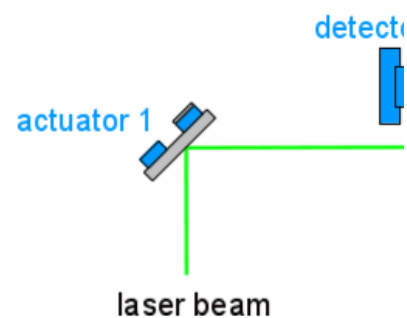

Figure 10: Set-up as in 9, with an additional detector 1 and an additional lens (lasers with larger beam diameters)
- Figure 10 shows a similar set-up where additional lenses are placed in front of the detectors. Further, a beam splitter is integrated in the beam path. This set-up might be better for lasers with large beam diameters.